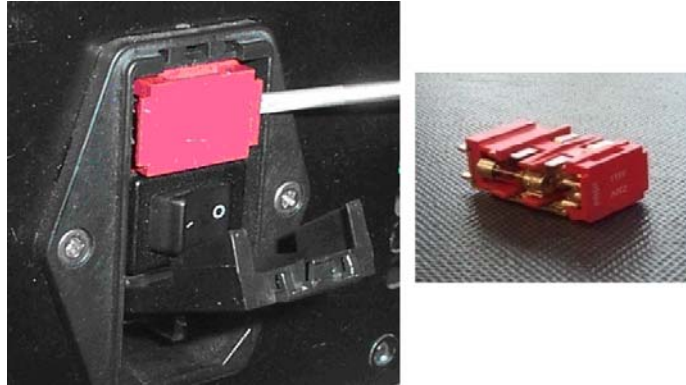

Figure 9-2: Power Supply Group Hosting Main Fuses
4. Pull out the "Red" fuse-holder using a flat-bladed screwdriver, as illustrated in **Figure 9-2: Power Supply Group Hosting Main Fuses**.